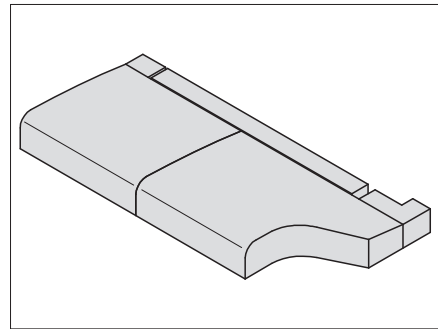
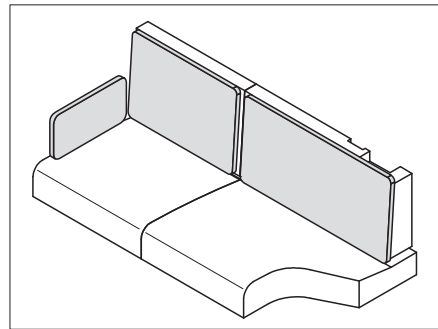

Fig. 201 Positioning seat cushions
Fig. 203 Cushion for back cushions
- Lay on the seat, backrest and additional cushions as shown in Fig. 201 to Fig. 203.